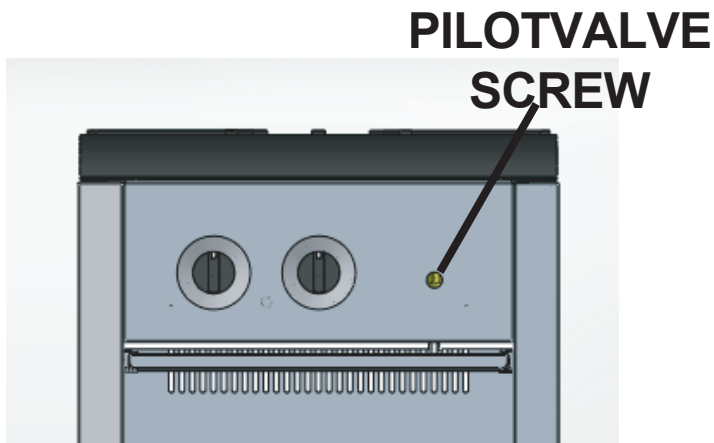
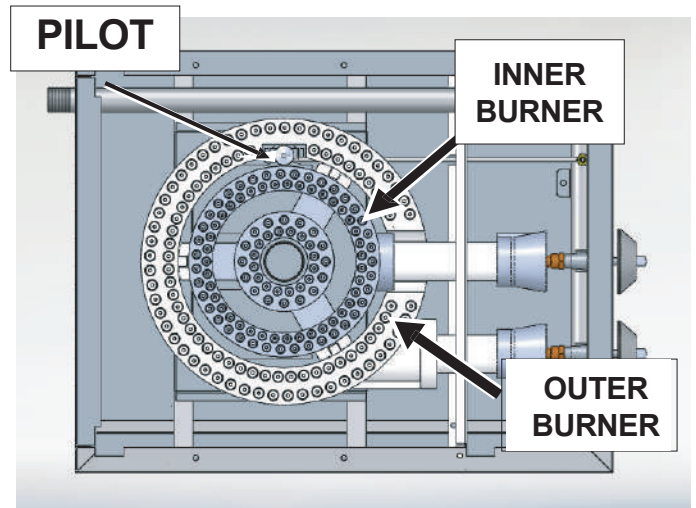

FIG5
FIG6
The burner is in two sections, controlled by two heavy duty infinite control valves. The center "Star"section (Fig.6)is on separate burner with an input of 40,000 BTU/hr. It is controlled by the right burner valve knob. The outer circle of the burner (Fig. 6) is the other separate 40,000 BTU/hr input burner, controlled by the left burner valve knob.
3. Light standing pilot with a lit taper (see Fig 6). Adjust pilot to ¼" high flame, if necessary, by turning pilot valve adjusting screw(see Fig.5) counterclockwise to increase orclockwise to decrease flame.